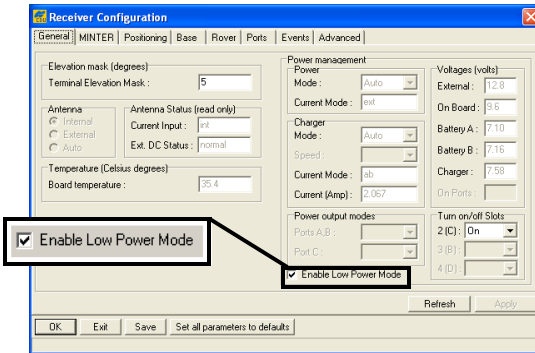

Figure 2-13. Enable and Apply Power Settings
- Select the *Enable Low Power Mode* check box to put the receiver's processor into low power consumption mode (Figure 2-13).